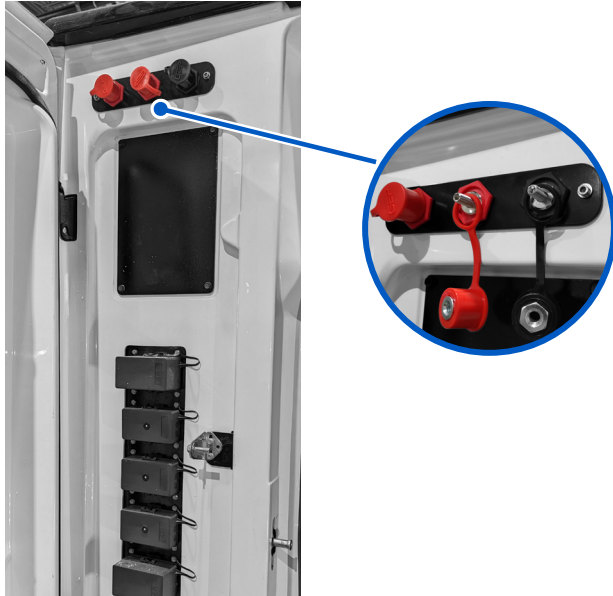

Figure 28 - Right side accessory compartment
- If need be, an auxiliary 24V supply can be applied to the two electrical terminals (optional equipment) located at the top of the accessory compartment (**Figure 28**) on the passenger side of the truck.
3. Turn on the vehicle and set the vehicle ride height to Normal or High using the suspension height control switches (see section on **Hydraulic Suspension**). Provide an auxiliary 24V supply if need be (**Figure 28**).